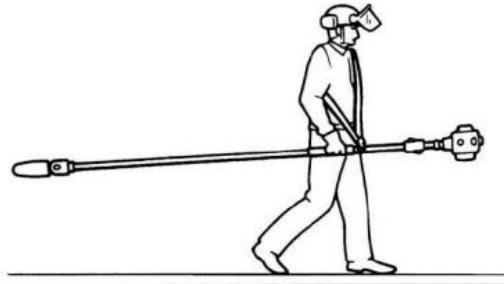

Fig. 1
- When carrying it in your hand, always keep the machine with the chain pointing backwards. See fig. 1